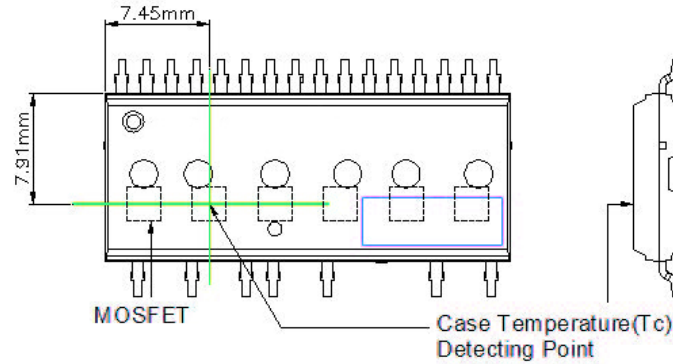

**Figure 4. Case Temperature Measurement**
- For the measurement point of case temperature  $T_C$ , Please refer to Figure 4.